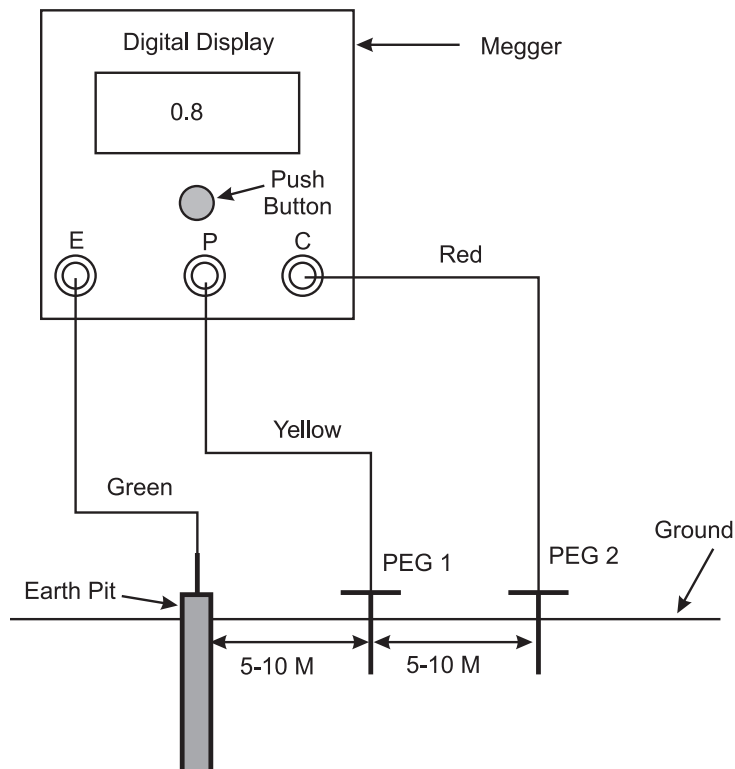

Figure 28.1: Checking of Earth conductivity
The resistance of earth pit is measured by an instrument called 'Megger'. Direct reading meggers with digital display are available in market. They are very simple to operate and can be easily used for checking the earth resistance measurement. Figure 28.1 shows the method of connection and measurement.
As we see in Figure 28.1, digital Megger has got three terminals namely E, P, and C. Terminal E is connected to the earth pit. Terminals P and C are connected to two pegs driven in the ground at a distance of 5 to 10 metres from the earth pit. Note the colour code of wires used for each connection. They match the colour of terminals of the Megger. A push button is provided on the meter which when pressed, connects voltage to leads. The digital display directly reads the earth resistance in ohms.
- Make the connections as shown in Figure 28.1 ensuring the colour code of wires and connectors provided on the megger.